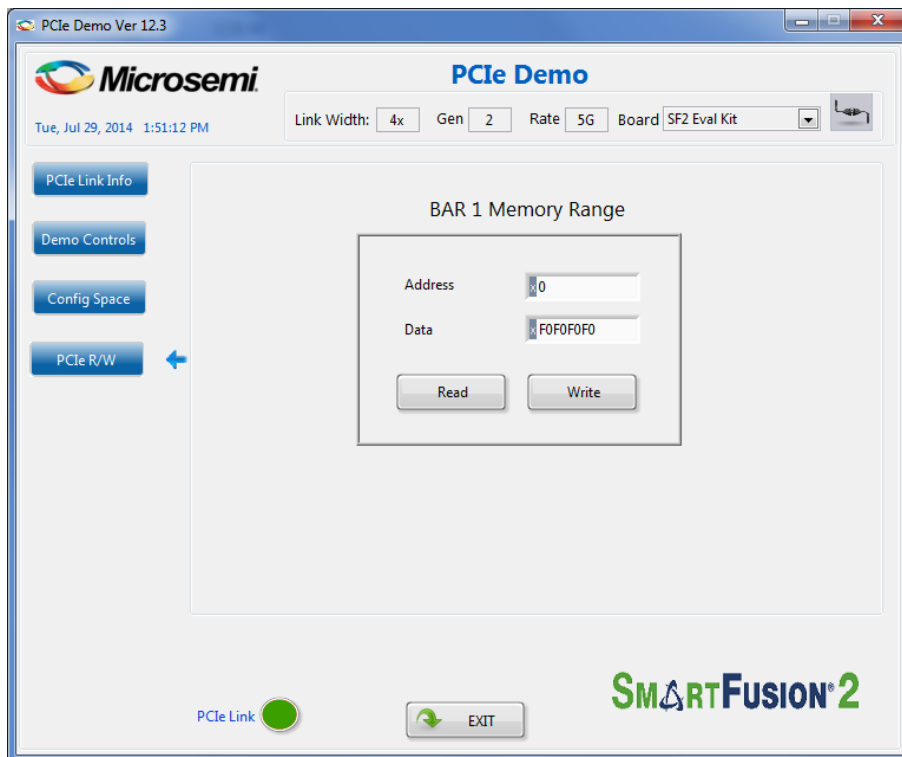

Figure 66 Perform Read and Write to LSRAM Using PCIe
14. Click **PCIe R/W** to perform read and writes to LSRAM memory through **BAR1** space. Figure 66 shows the **PCIe R/W** window.